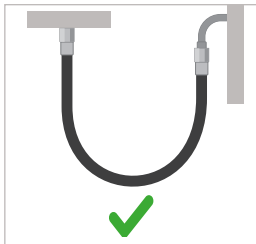
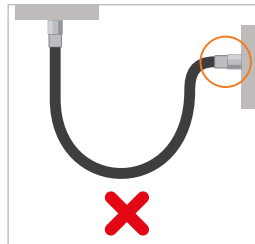

Figure 3
Figure 4
- ▶ Do not angle or kink the hose beyond its permissible bending radius (see *Chapter 4. Technical data on page 13*) (*Figure 3* and *Figure 4*).